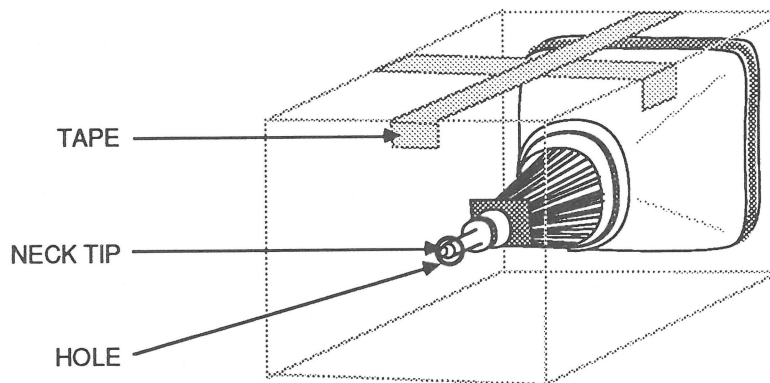

FIGURE 6
3. Place the CRT inside the box with the tip of the neck protruding through the hole, and tape the box flaps down with the duct tape (Figure 6).